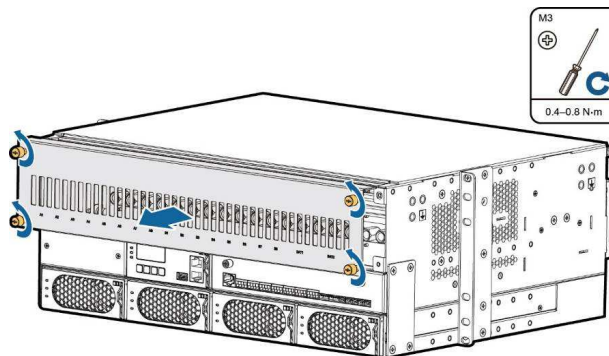

Figure 17 – Removing the Front Panel from the DCPS
- Step 1** Remove the front panel from the DCPS, as shown in Figure 17